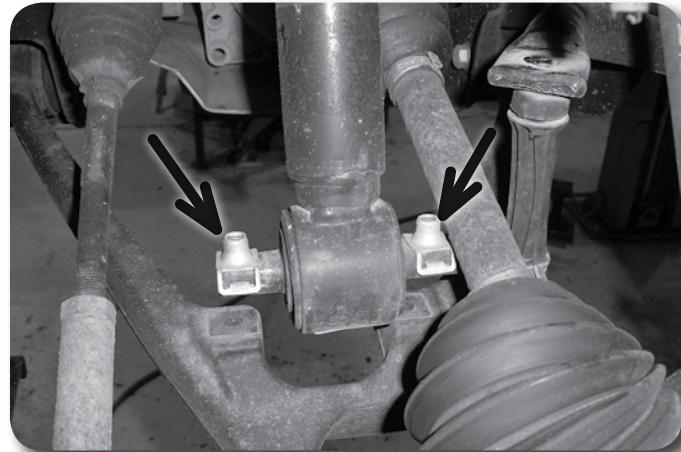

Figure 6
- Using a flat head screw driver, remove the factory nut clips from the strut bar pins. **Figure 6** These will not be reused.